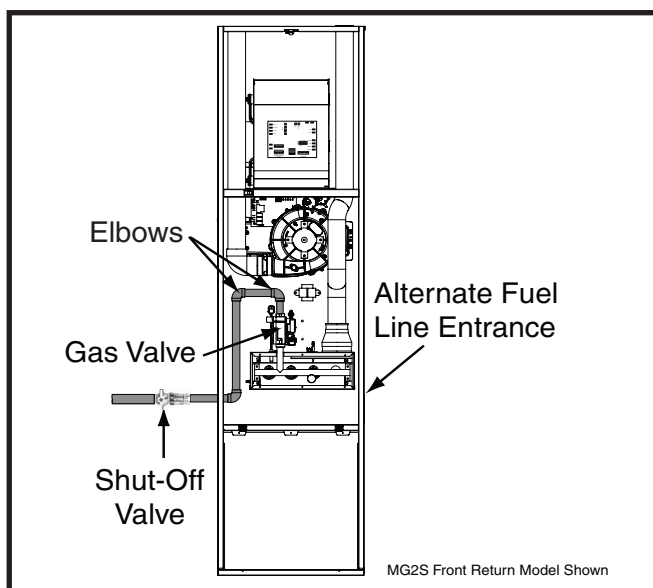

Figure 19. Typical Gas Connections
- Some local regulations require the installation of a manual main shut-off valve and ground joint union external to the furnace as shown in Figure 19. The shut-off valve should be readily accessible for service and/or emergency use. Consult the local utility or gas supplier for additional requirements regarding placement of the manual main gas shut-off.
The furnace is installed with a bottom gas entry. When connecting the gas supply, provide clearance between the gas supply line and the entry hole in the furnace casing to avoid unwanted noise and/or damage to the furnace. Typical gas hookups are shown in Figure 19.
- Connect the thermostat's **W** output to the furnace control boards **W1** terminal. This allows the furnace to always run in low output mode. See (Figure 19)